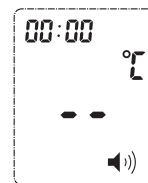

Figure 1
1. Press  BUTTON to turn on the thermometer(See Figure1).